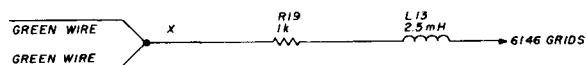

fig. 3. As-built appearance of the HT-37 (see text).
Before performing the next step, note that two green wires are connected to R19 as shown in fig. 3. Now proceed as follows:
12. Remove both green wires from point X in fig. 3. Leave them free for now.
15. Connect the two green wires lifted in step 12 to point C (fig. 4) and run a new wire from point D (fig. 4) to R19 (point X in fig. 3).